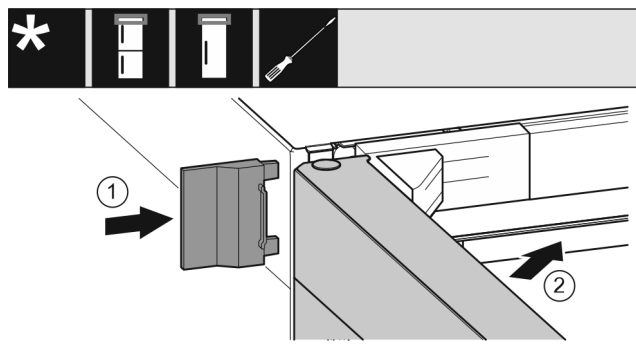

Fig. 27
- ▶ Slide on the outer cover Fig. 27 (1).
- ▶ Close the top door Fig. 27 (2).